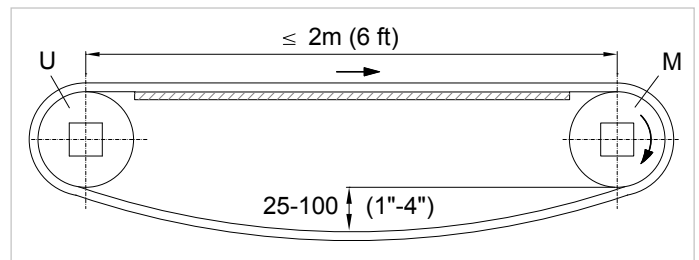

Figure 40
**Short conveyors** (maximum 2 m (6 ft)) (Fig. 40)